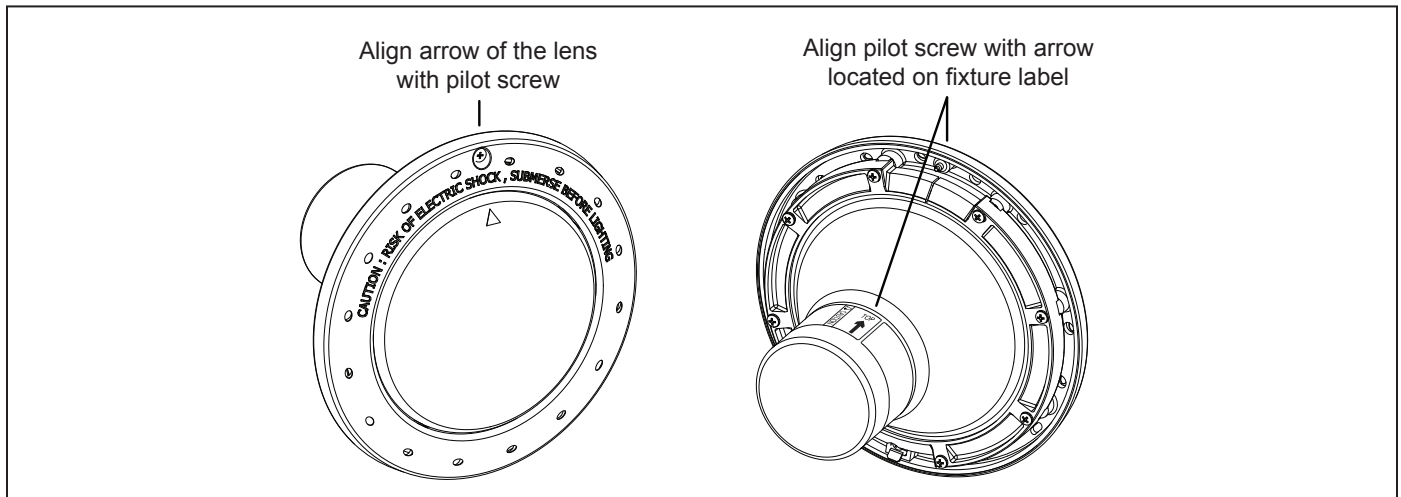

Figure 8. Alignment of the Lens, Face Ring, Housing and Clamps for Pool White Lights
- a. Loosen the eight (8) Phillips head screws for pool light or the six (6) Phillips head screws for spa light to allow the bottom clamp to be removed from the face ring assembly. Do not remove the screws or the retaining rings. The retaining rings prevent the screws from falling free from the top clamp and also aid in ease of assembly.
- c. Position the lens and gasket on the fixture. Place the face ring and the top clamp over the lens and align the pilot screw with the small arrow mark on the face of the lens. Note that the small arrow mark on the face of the lens and the pilot screw of the face ring must be aligned with the arrow located on fixture label that reads, “Arrow on this label must line up with the pilot screw on the Face Ring”. See Figure 8.
- e. Spread the bottom clamp over the electrical cord and slide it onto the back of fixture to the top clamp. See Figure 8.
- f. Tighten the eight (8) Phillips head screws for pool light or the six (6) Phillips head screws for spa light in alternating cross-pattern. Torque screws to approximately 20 in-lbs. Do not over-tighten.